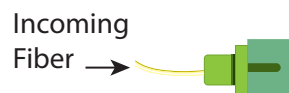

Figure 6. Fiber Installed
4. Refer to the Figure 6 and connect the Incoming Fiber Connector.